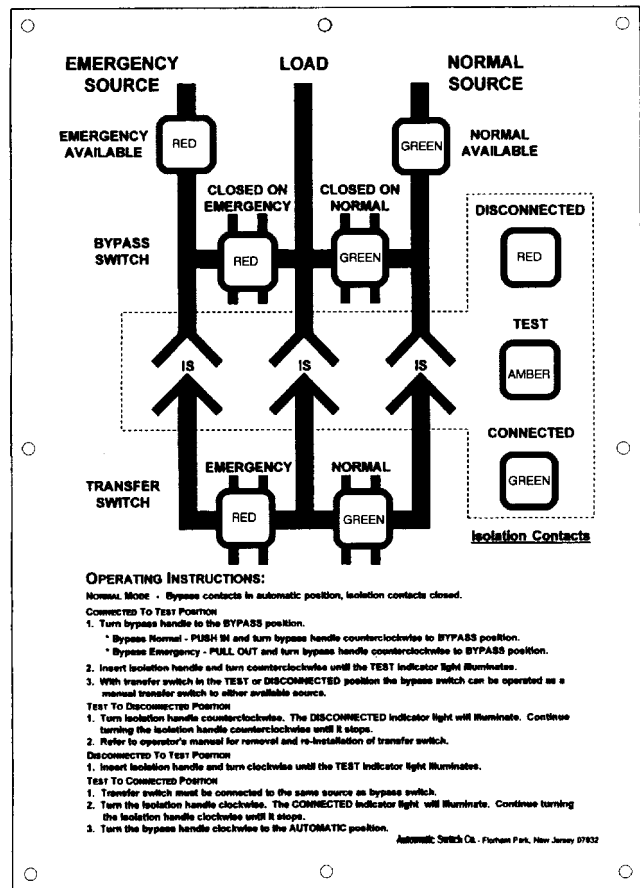

Figure 3-7 . Status Indicator Panel
3. Observe which Bypass Switch *CLOSED ON* light is on (*NORMAL* or *EMERGENCY*) on the *STATUS INDICATOR* panel as shown in Figure 3-7. This light indicates the source connected to the load.